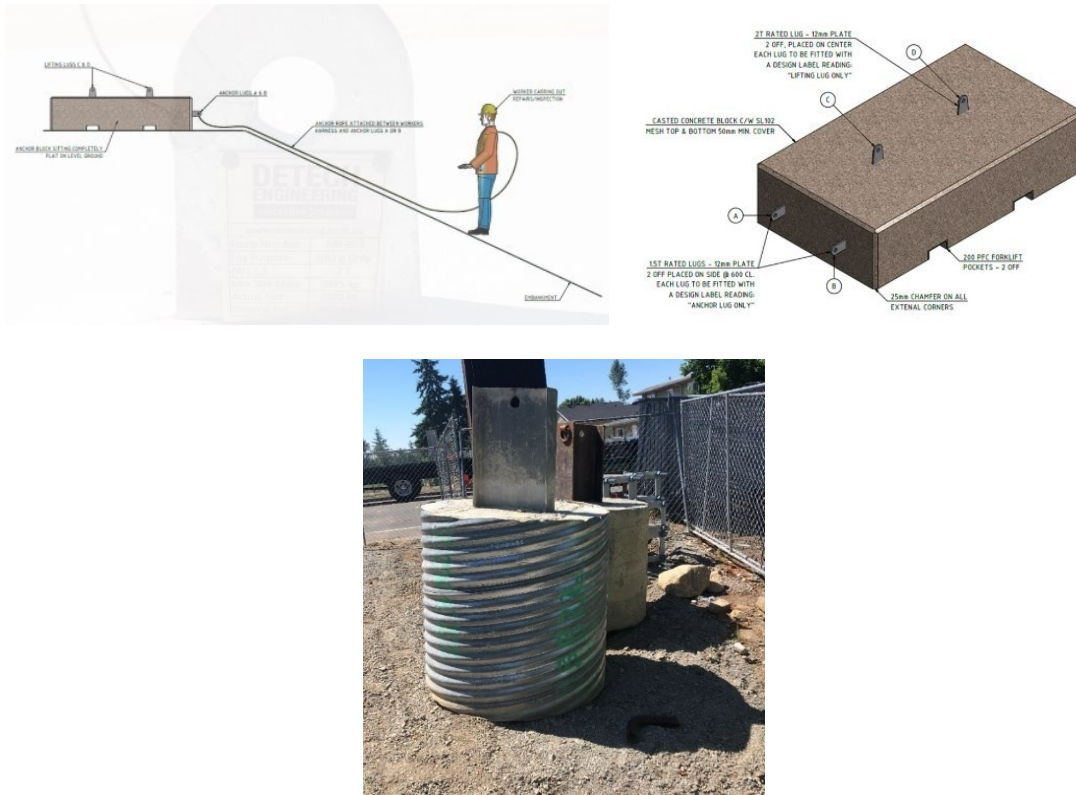

Figure 3.2
4.4.1 Engineered Anchor Points (Figure 3.2)